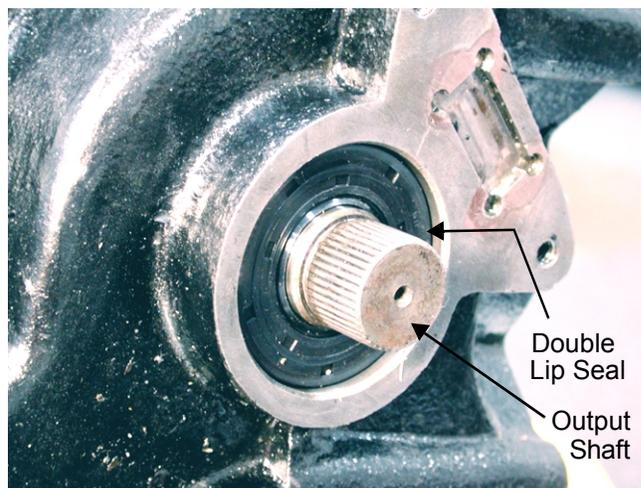

Figure 5
25. Install the output shaft double lip seal using a seal pusher and hammer. See Figure 5.